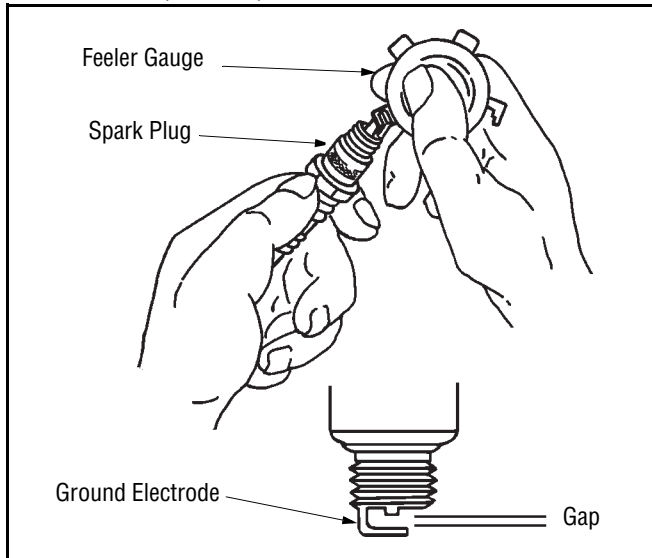

Figure 14
- Check the gap using a feeler gauge and adjust, if necessary, by carefully bending the ground electrode. See Figure 14. Set the spark plug gap to 0.030 in. (.76 mm).